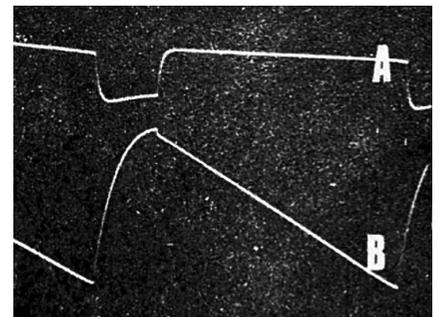
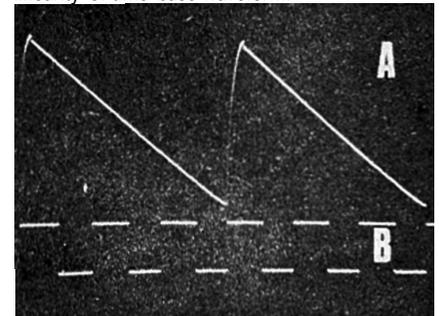

Fig.1. Typical time base waveform (B) with fly back suppression pulse (A) Note excellent linearity of time base waveform.
Fig.2. Time base waveform (A) against displayed square waves (B) to show synchronisation. Text explains time relationship.
For the benefit of those unfamiliar with the oscilloscope, a few examples concerned with calibration may not be amiss. The oscillogram in Fig. 1 shows a typical timebase waveform (B) beneath the negative-going trace fly-back suppression pulse: Now the timebase waveform looks linear, which it is, and the fly-back suppression pulse coincides exactly with the return of the timebase waveform from zero to maximum amplitude. A very linear timebase is important otherwise repetitive waveforms will appear as crowding together toward one side or the other of the display. An example of good linearity is shown in Fig. 2 in